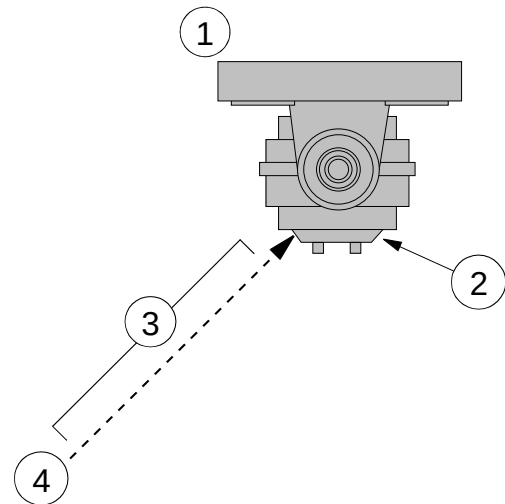

Figure 17: Looking through the optical module scope
1. Look into the scope of the optical module. Stand at a 45° angle and at eye level to the optical module alignment scope (see Figure 17, #2), at a distance of 10 cm to 15 cm (4 in. to 6 in.) away.
Table 17: Key to Figure 17